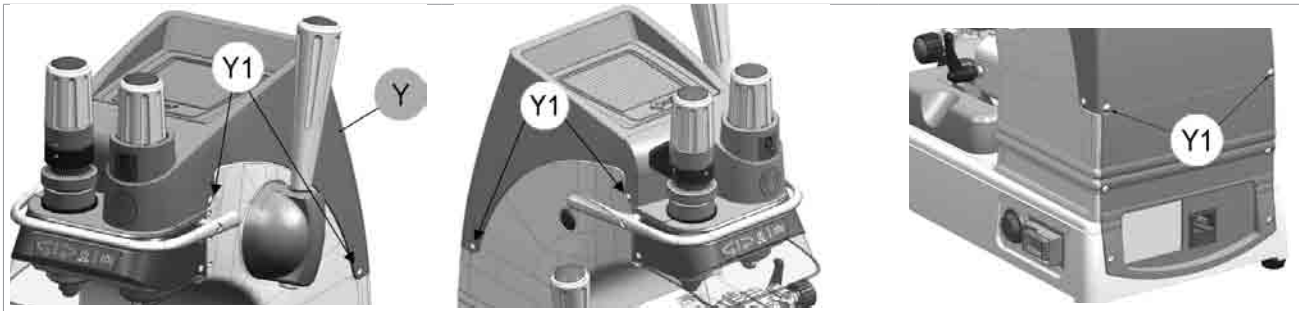

Fig. 55
- 2) Remove the 6 screws (Y1) to detach the top safety guard (Y) (Fig. 55).